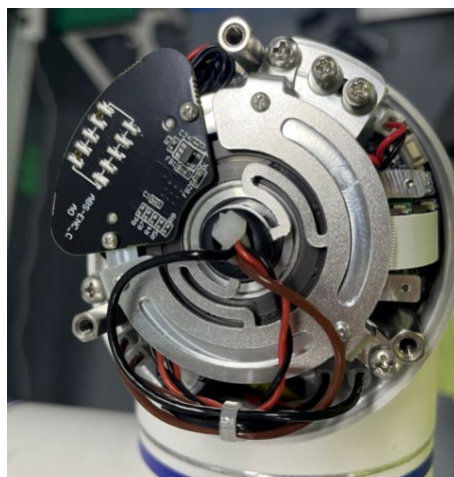

Figure 3-16 Reconnect the wires
- Reconnect the wires and tie them as shown in Figure 3-16:
- Reconnect the wires and tie them with as shown in Figure 3-16;